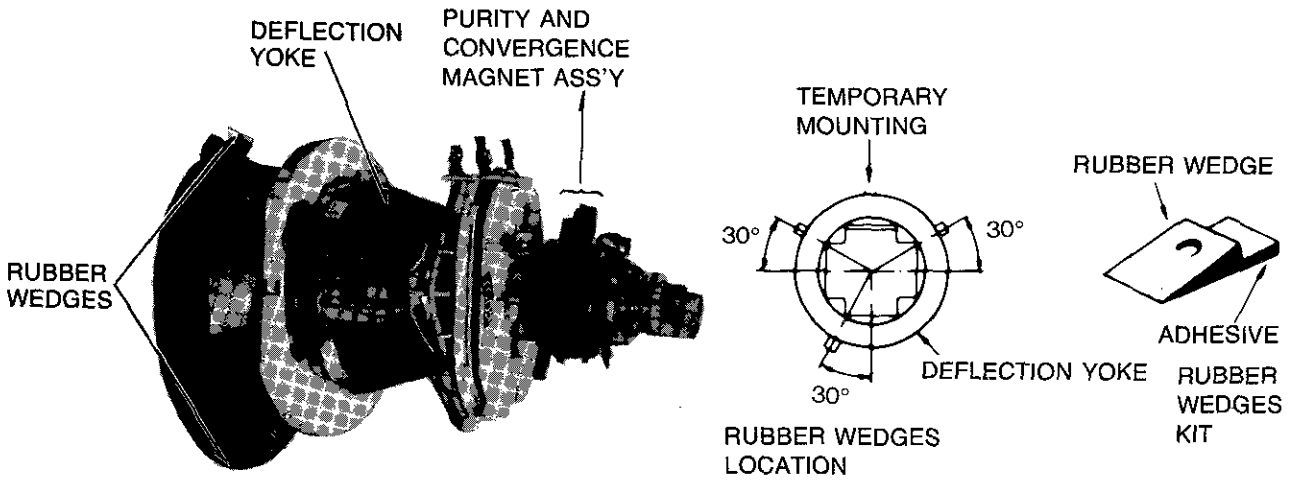

Figure 14
**CAUTION:** Convergence and Purity have been factory aligned. Do not attempt to tamper with these alignments. However, the effects of adjacent receiver components, or replacement of picture tube or deflection yoke may require the need to readjust purity and convergence. Convergence magnet assembly and rubber wedges need mechanical positioning following the figure 14. Before attempting any convergence adjustments this receiver should be operated for at least fifteen minutes. If adjustment is required the adjustments should be made in the following sequence.
2. Adjust DY to obtain a better convergence in the circumference by orbital movement of the front of the yoke, then secure the DY in appropriate position by placing the wedges as illustrates in figure 14. Tighten screw holding the DY. Stick 3 adhesive tapes on wedges as shown in figure 14.